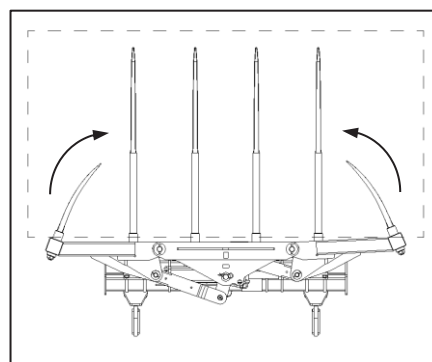

Fig.9
- ✔ After penetrating a bale stack, ensure the wings are closed as far as possible – transporting hay bales with partially engaged wings pose a safety risk (Fig. 9).
- ✔ Nadat 'n baalstapel binnegedring is, maak seker dat die vlerke so ver moontlik gesluit is - die vervoer van hooibale met gedeeltelik vasgemaakte vlerke hou 'n veiligheidsrisiko in (Fig. 9).